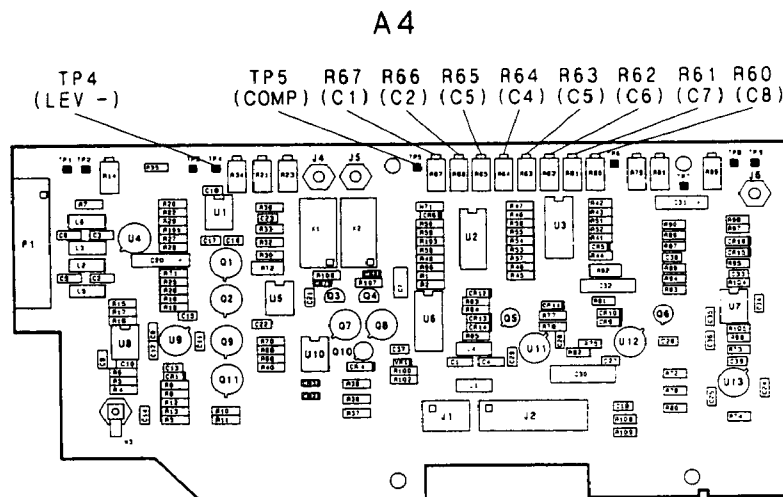

Figure 5-4. Compensation Zero Adjustment Location
5. Center resistors, R67 through R60 (C1 through C8) on the A4 Signal Conditioning Board in the HP 8349B. See Figure 5-4.
6. Connect DVM LO to A4TP4 (-) and DVM HI to A4TP5 (COMP). See Figure 5-4.